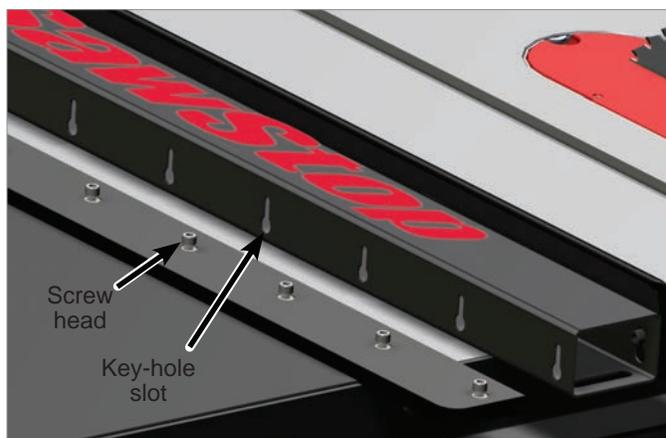

Fig. 40
- i. The last step is to set the spacing between the bottom of each face plate and the table. The face plates are held in place by a series of screws threaded into nuts embedded in the face plates. The heads of the screws fit into key-hole slots in the sides of the fence (See Fig. 40 with endcap removed).